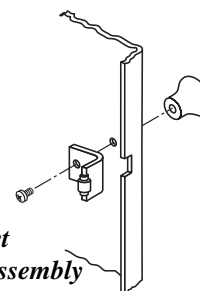

Fig. 2 Cabinet Door Knob Assembly
9. Install the door knob onto the outside of the door. Install the machine screw through the latch bracket, door, and into the knob. Tighten securely (fig. 2).